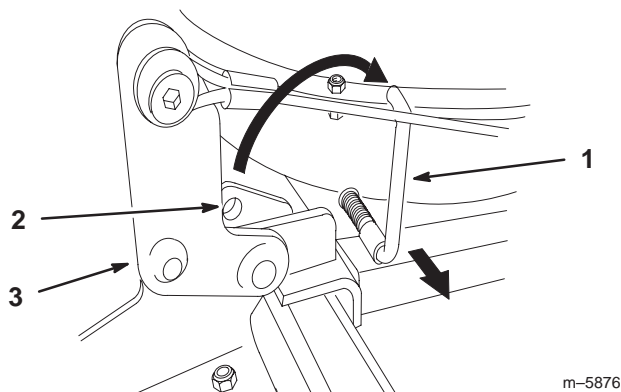

Figure 26
4. With the bagger open, pull out the holding pin and insert into the hole in the hinge (Fig. 26).